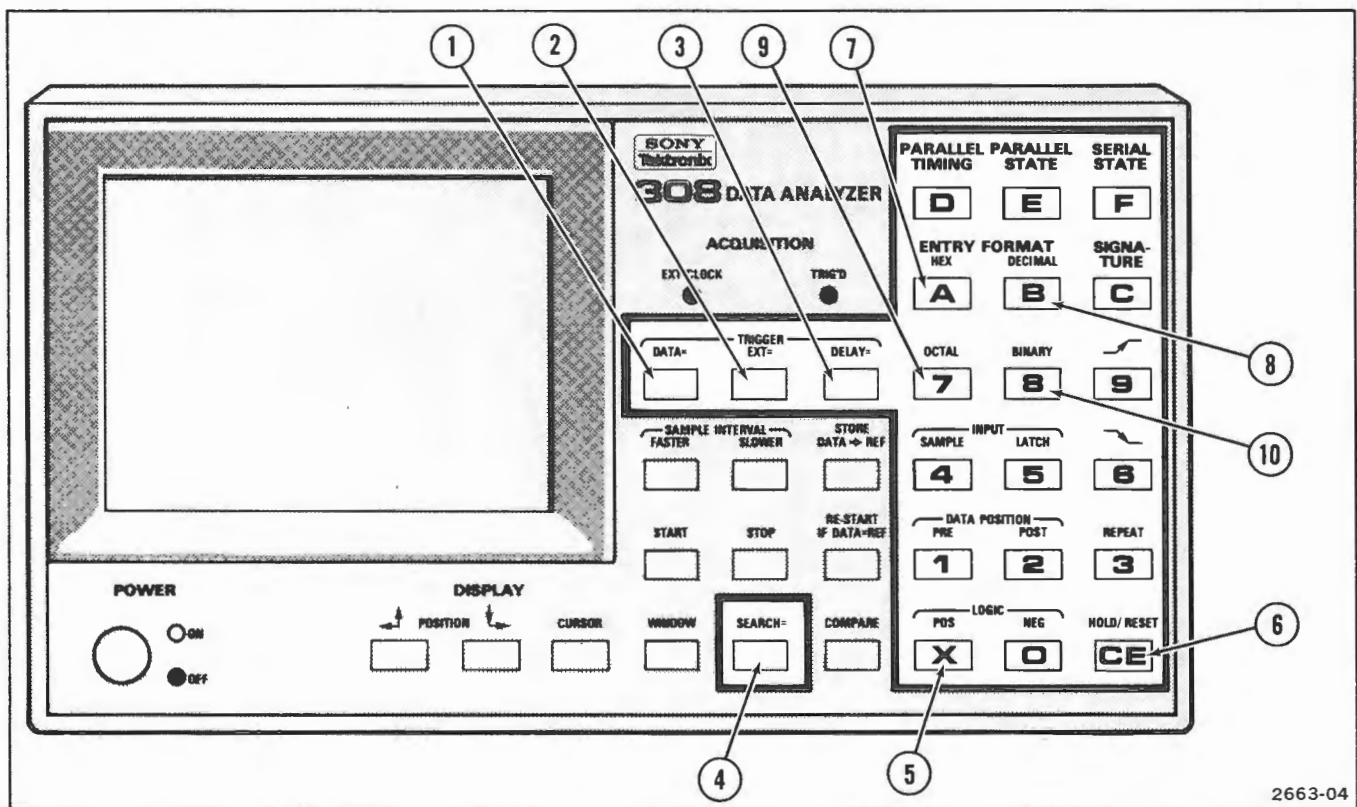

Figure 2-6. Entry controls.
Entry controls shown in Figure 2-6 allow the user to change instrument parameters by creating inverse video blanks and allowing the operator to fill the blanks in hexadecimal, decimal, binary, or octal format.
The information contained in the Next State Table, Figure 2-10, is similar (with a few differences) to the information contained in the Control Function Access Chart. In the Next State Table the Signature modes are broken down into the Setup, Hold, and Repeat modes. The effect of using keys to enter instrument variables is also included. The following example illustrates how the table works. Assuming the instrument is in the State Cursor state (5) and the **DATA=** key is pressed, the next state the instrument would automatically enter is the State Menu (3). This is indicated in the table by the *3 at the intersection of the lines between State Cursor and Data=. The asterisk shows that in addition to going into the State Menu state, an instrument variable has been set, and a data entry sequence must be completed by using the data entry keys (see Figure 2-6, Entry Controls).